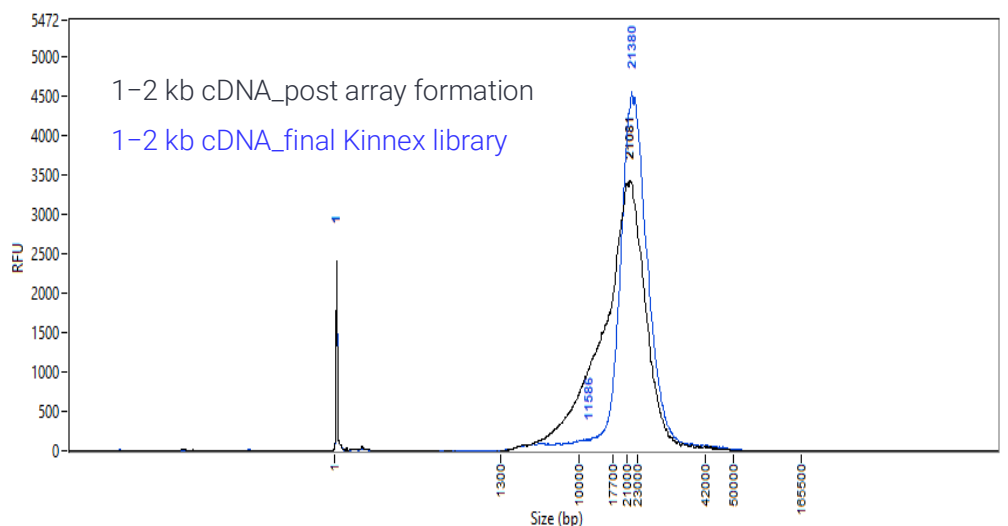

Figure 1. 12-fold array and final library quality control on Femto Pulse
4.2.14	- Take a 1 µL aliquot from each tube, dilute with 4 µL of elution buffer. - Using 1 µL of the dilution, measure DNA concentration with a Qubit fluorometer using the 1x dsDNA HS kit. Expect 10–20% recovery of the starting Kinnex-PCR product. - Recommended: Further dilute each aliquot to 250 pg/µL with the Femto Pulse dilution buffer. Check the final Kinnex library size distribution with a Femto Pulse system (see Figure 1 in the Appendix for an example).
An example of an ideal array profile before nuclease treatment is provided in **Figure 1 of the Appendix**.